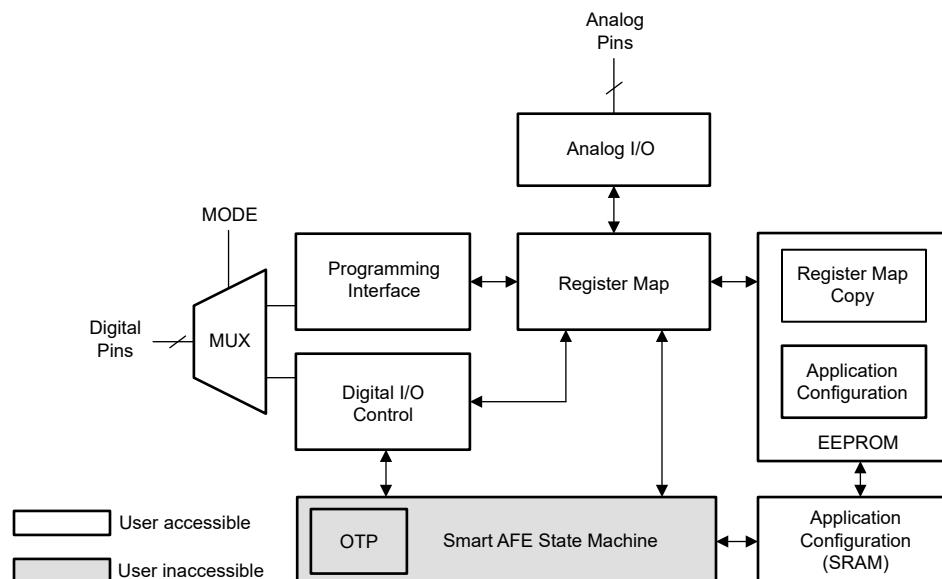

Figure 7-4. Smart AFE Architecture
The AFEx39xx feature a programmable state machine supporting arithmetic, logic, and timing operations, as shown in Figure 7-4. This state machine has been pre-programmed as a proportional-integral (PI) controller allowing the user to program the coefficients and input-output parameters. The details of the PI controller are discussed in Section 7.4.6. The user configurations are stored in the NVM and the state machine can be operated in standalone mode without interfacing to a processor (*processor-less* operation)